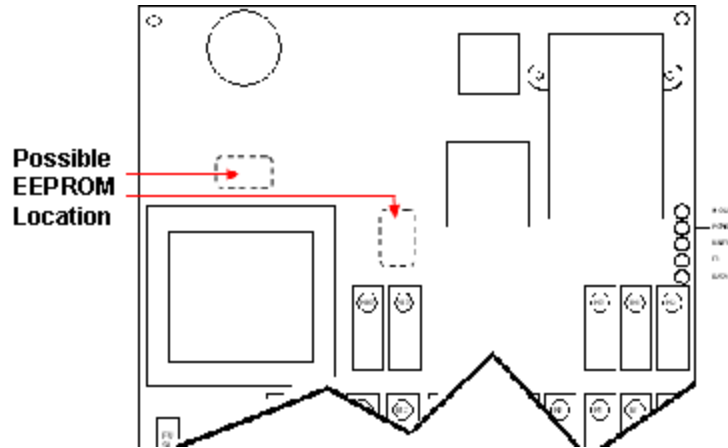

Figure 10: Receiver EP70 Module Location
1. Remove the cover from the receiver and pull the EP70 from its location by grasping the module by its edges—avoid touching the actual component beneath—and lift the module from its pins by pulling away from the component board. See Figure 10 below for possible EEPROM location.